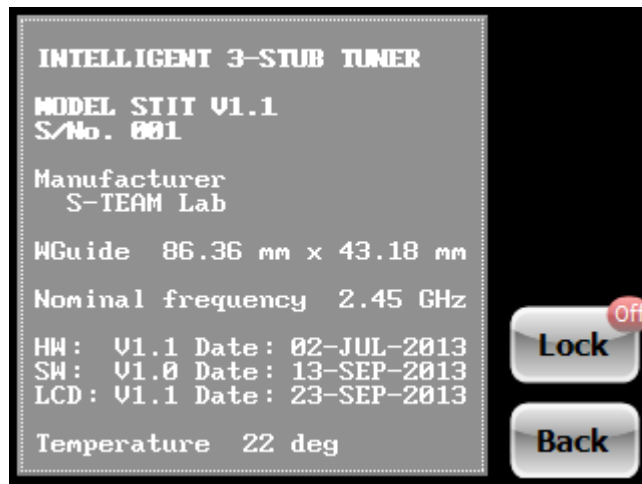

Fig. 9. *More* screen. LCD represents the touchscreen HW/SW version.
The *More* screen (Fig. 9) serves for accessing additional functions and providing information about the tuner. The menu is activated by touching **More** button in the Main screen.
- The **Lock** button is normally in the *Off* state, as shown in Fig. 9. In this state, tuning stubs can be moved freely as described in Setting Stub Extensions.